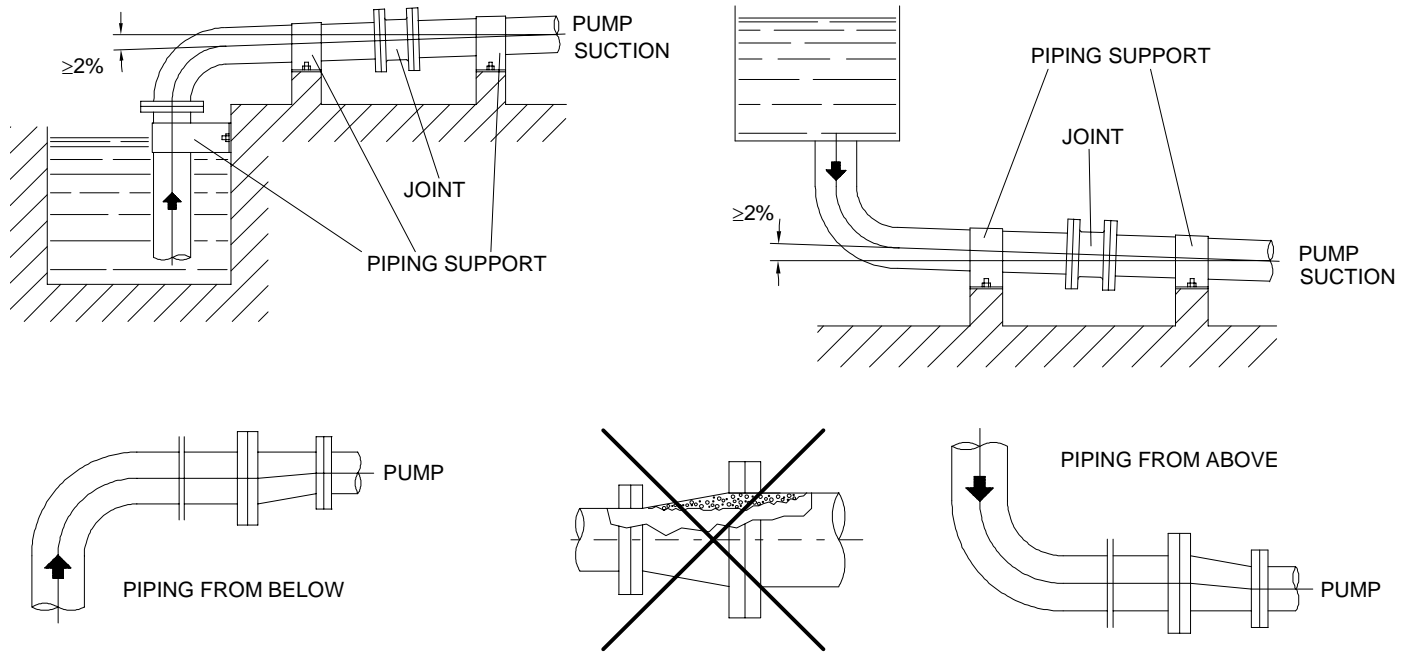

Fig. 16
9.2 - SUCTION AND DISCHARGE PIPING (see fig. 16)